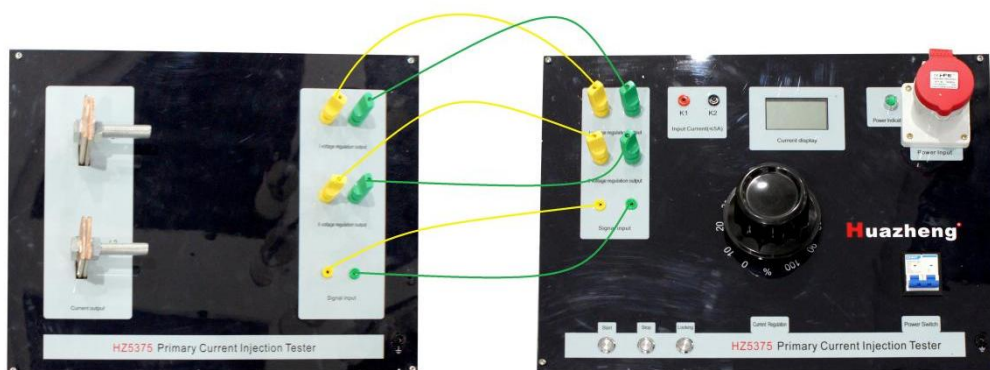

Figure 1. System wiring
1. Connect the instrument host according to the diagram. (Figure 1)